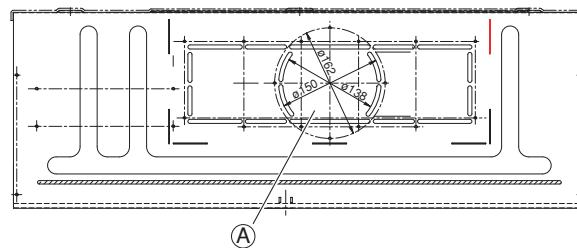

Fig. 3-38
- (5) If the system requires fresh air to be drawn into the unit, cut and remove the insulation (both externally and internally) at the location shown as A in Fig. 3-38.